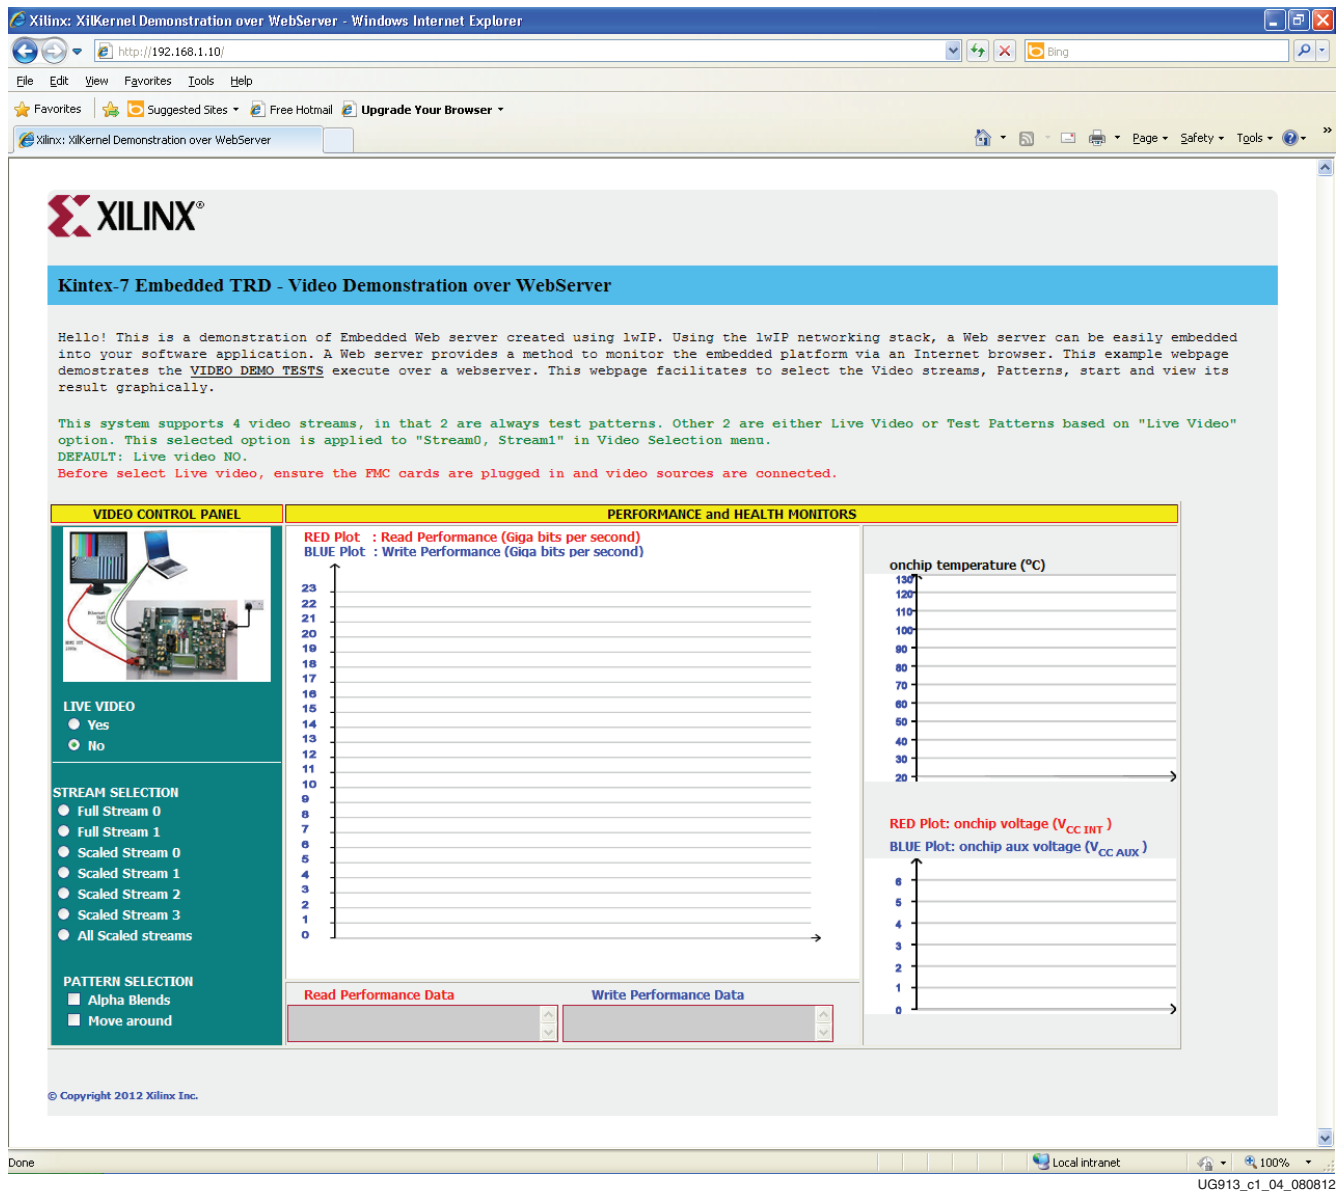

Figure 1-4: Initial Video Demonstration Web Page
- Open a Web browser on the host computer and set the URL to 192.168.1.10. The Web page shown in Figure 1-4 should be displayed. The page uses JavaScript, so the browser must have JavaScript enabled.